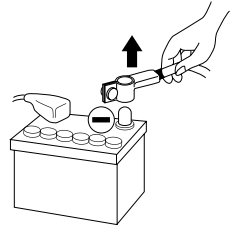

fig. 1
- **Before beginning installation, disconnect the negative terminal of the battery to avoid any risk of injury, fire or material damage (fig. 1).**
2. Disconnect the battery's negative wire before installation (*fig.1*).